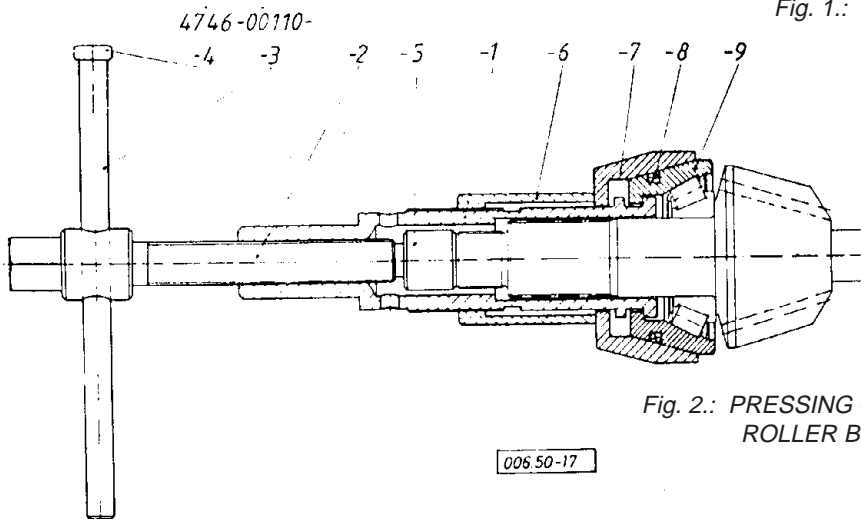

Fig. 2.: PRESSING OFF THE INNER TAPER ROLLER BEARING CONE
By means of the device shown (Fig. 2.) press out the cone of the inner taper roller bearing (12) remained on the drive pinion.